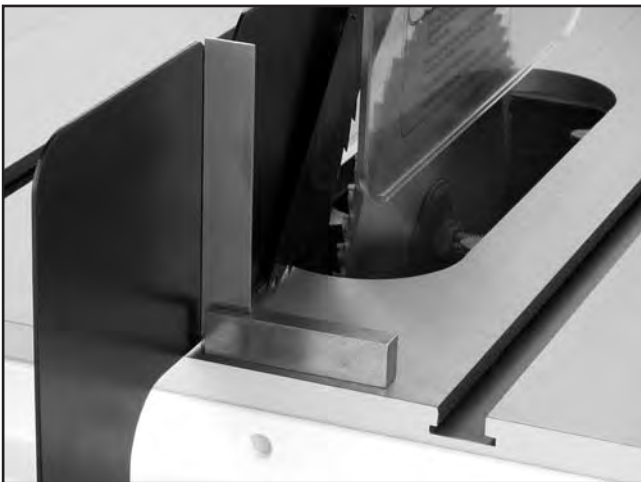

Figure 31. Blade guard perpendicular to the table.
6. Using a machinist's or a combination square, align the face of the blade guard perpendicular to the table surface (**Figure 31**).